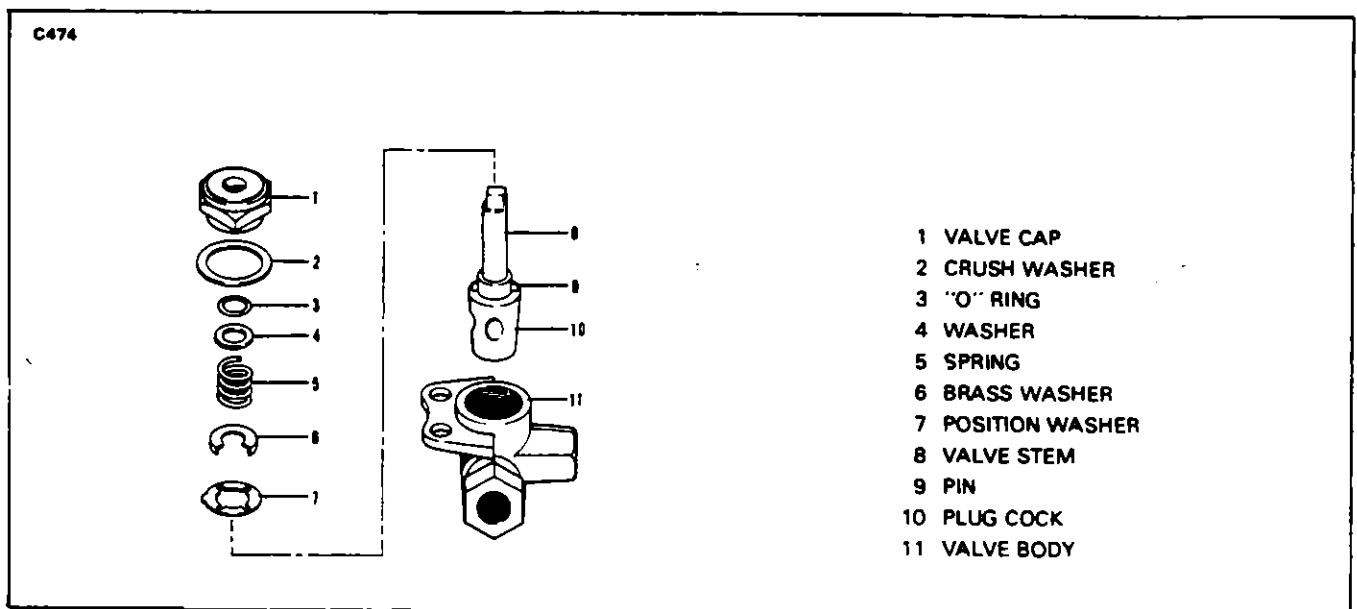

FIGURE 8-11. THREE POSITION FUEL VALVE PA-24-180 AND PA-24-250
**8-14 Servicing Three Position Fuel Valve.** (PA-24-180 and PA-24-250) The three position valve should be serviced every 400 hours or when there is an indication of valve binding. The binding of this valve (refer to Figure 8-11) is caused by fuel coming in contact with the plug and gradually removing the film of lubricant; presence of foreign material or the use of improper lubricants
- a With the valve removed from the aircraft, remove the valve cap (1) and interior parts
- b Inspect the position washer (7) inner perimeter surface for indications of wear; should this be evident, replace washer
- c Check the condition of plug cock (8) and valve body (11) for scored surfaces. The surfaces, if not badly scored, may be conditioned by lapping with a fine polishing compound. Clean away all compound after lapping. If plug cock will not seat properly or if scoring remains evident, the valve should be replaced.
- d Check the condition of the valve stem in the area where the "O" ring (2) seats. Should the stem be worn or damaged so that the "O" ring will not seal, replace the valve.